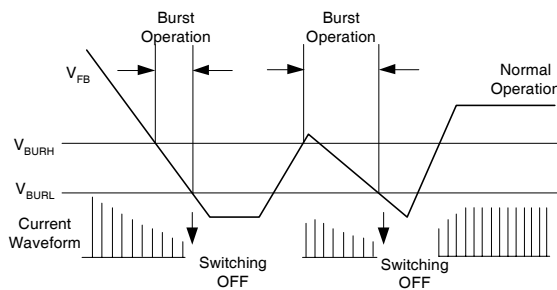

Figure 8. Burst Operation Function
6. Burst Operation: In order to minimize power dissipation in standby mode, the FPS enters burst mode operation. Feedback voltage decreases as the load decreases and as shown in Figure 8, the device automatically enters burst mode when the feedback voltage drops below V_{BURH} (typically 600mV). Switching still continues until the feedback voltage drops below V_{BURL} (typically 400mV). At this point switching stops and the output voltage start to drop at a rate dependent on the standby current load. This causes the feedback voltage to rise. Once it passes V_{BURH} , switching resumes. The feedback voltage then falls and the process is repeated. Burst mode operation alternately enables and disables switching of the Sense FET and reduces switching loss in standby mode.